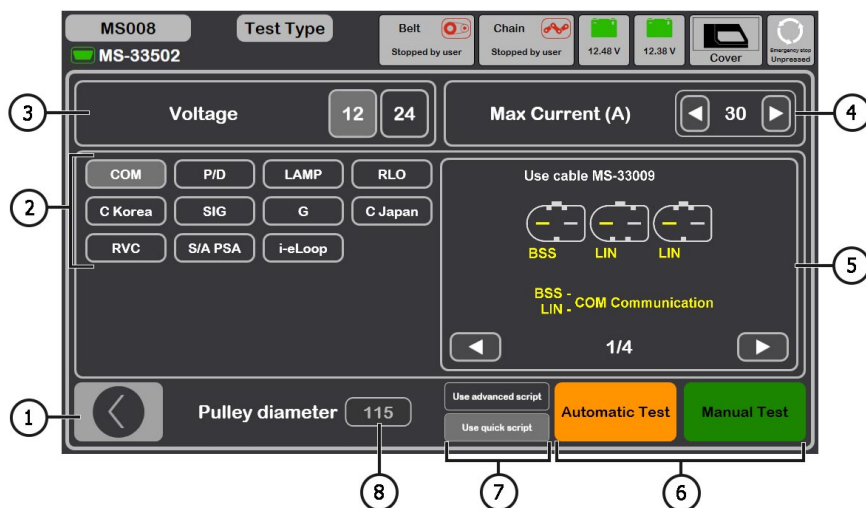

Figure 18. Menu for Selecting the Diagnosed Alternator Type
When the alternator diagnostic mode is activated, a menu for selecting the type of diagnosed alternator opens (see Figure 18), which includes:
6 - Control of the load on the alternator, the value is set in percentage of the value set in menu item 4 of Figure 18.
"**Pulley RPM**" – Rotation frequency on the alternator pulley. If the pulley size is not specified in menu item 8 of Figure 18, the drive revolution value is displayed.